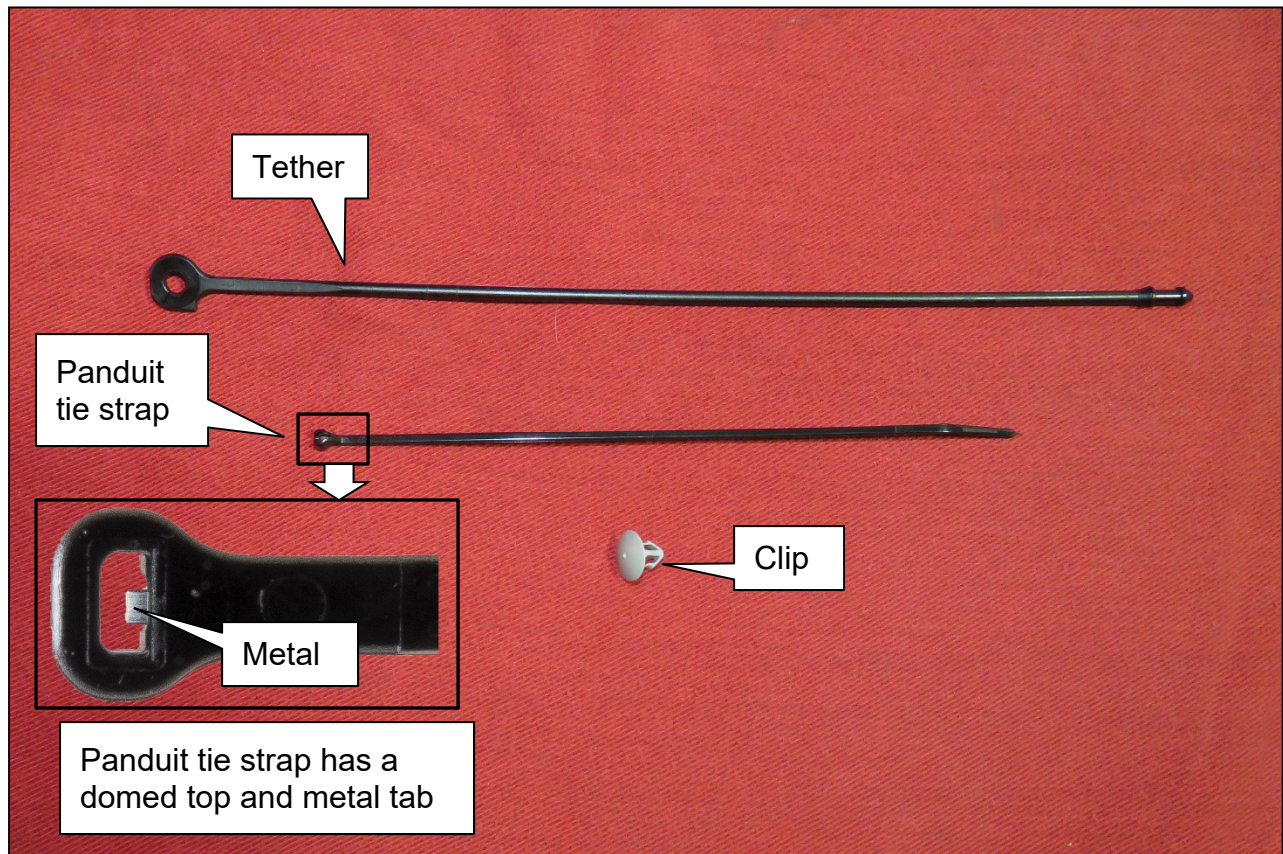

Figure 8
- **ONLY** use the Panduit tie strap listed in the **PARTS INFORMATION** on the last page as it has a metal tab that is required for this repair. (See Figure 8 on page 5)